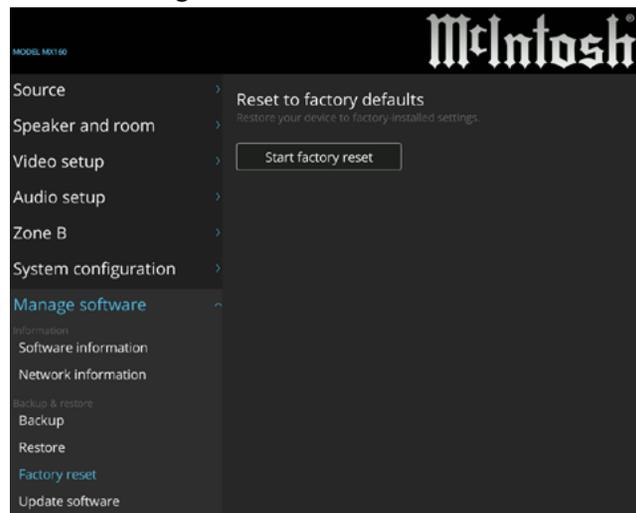

Figure 10
4. Select “Factory reset” by using the Down ▼ Directional Push-button on the Remote Control. Refer to figure 10.